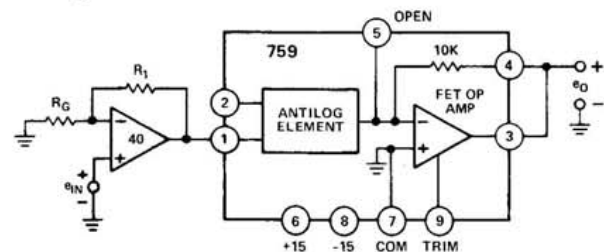

Figure 6. Method for Adjusting $K < 2/3V$
Scale Factor (K) Adjustment – The scale factor may be adjusted for all values of K greater than 2/3V by the techniques described in the log section. If a value of K , less than 2/3V is desired for a given application, an external op amp would be required as shown in Figure 6. The ratio of the two resistors is approximately: